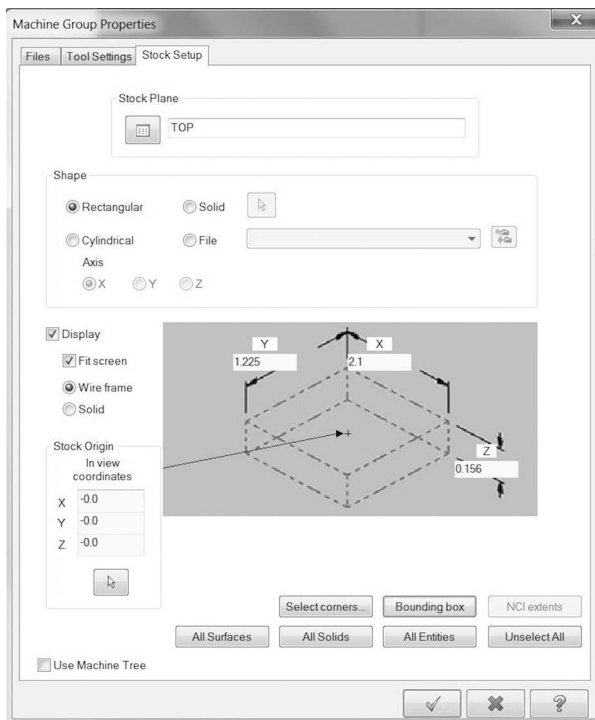

Figure 5-40 Mill Example
4. In the operations manager, expand the Properties Mill-Default to expose Stock setup and left-click to open it. Complete the required information per the blank stock dimensions as in Figure 5-40.